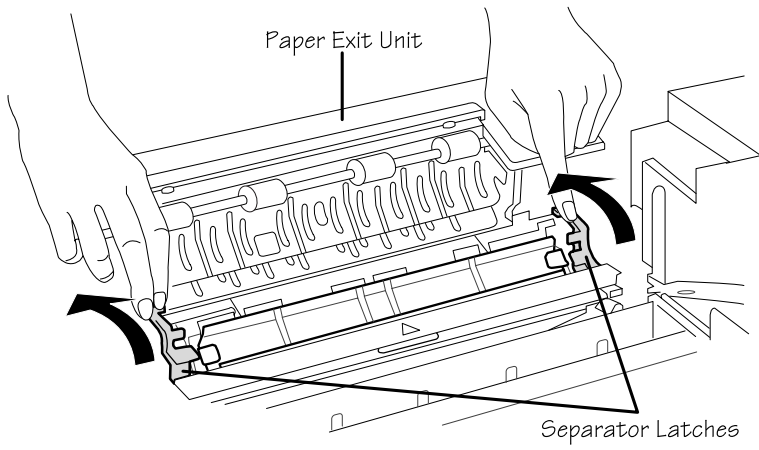

Fig. 2.14 Open Separator Pawl Unit (front view)
2. Pull back the two latches (one on each side) of the separator pawl unit to unlock it. Then, tilt the pawl unit back in the direction of paper exit unit at the back of the printer (fig. 2.14).